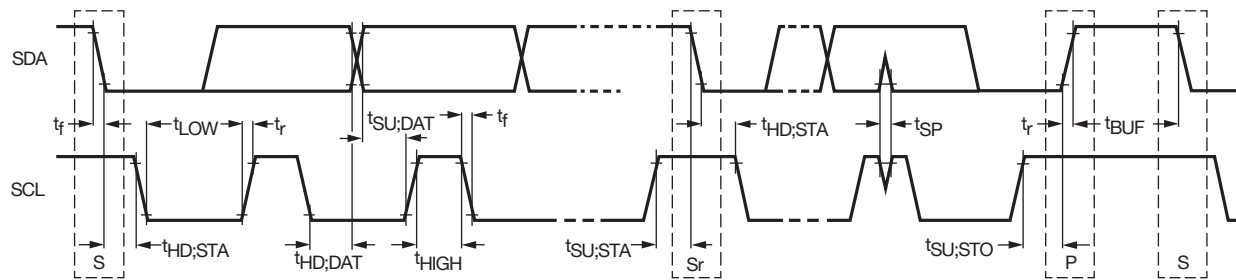
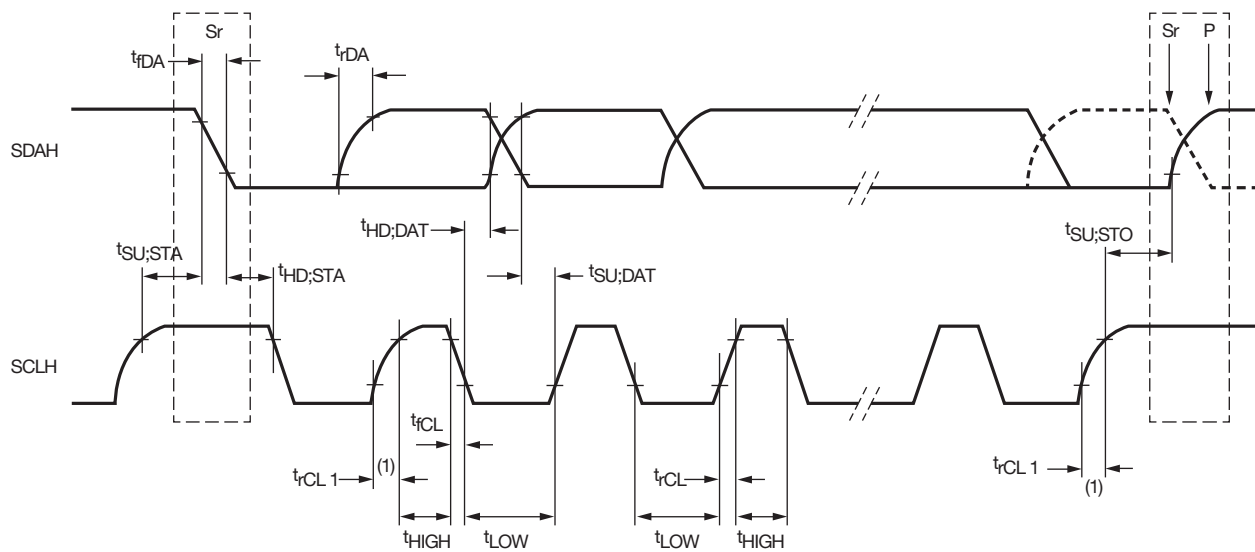

Figure 2. AC Characteristics, Standard and Fast Modes
Figure 3. AC Characteristics, High Speed Mode
3. Refer to Figure 2 and Figure 3 for more information on AC characteristics.